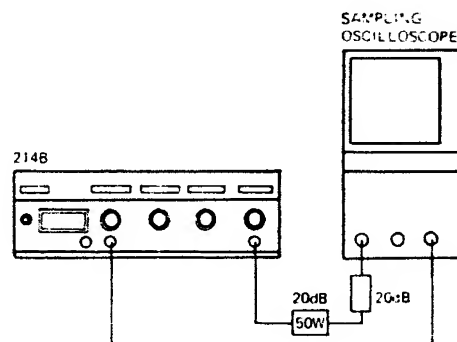

Figure 4-4.
1. Connect equipment as shown in Figure 4-4 and set 214B controls as follows: